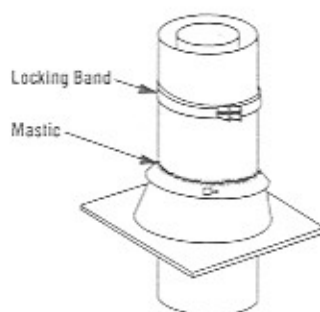

Figure 31
Step 8. The standard Superior roof flashing assemblies include a storm collar. Slide storm collar over outer chimney, align with top surface of flashing, insert tab in slot, pull tight and bend tab back over slot. Seal storm collar to outer chimney with roof caulking or mastic around entire circumference of pipe. Also add extra roof caulking where storm collar meets flashing and to the tab/slot area to seal completely against water penetration (Figure 31). Check all joints very carefully to ensure no water intrusion can take place.
Step 9. Superior locking bands, Model LB, may be required if the chimney extends too high above the roof flashing. As a general rule, if the chimney extends more than 6' (1.8 m) above the roof flashing, the use of locking bands is advisable to strengthen the chimney assembly. Align the locking band at the chimney joint. Locking bands wrap around pipe joints equally covering the joints of both pipe sections. Use nut provided and TIGHTEN snugly. Do not over-tighten as this might damage chimney section (Figure 31).